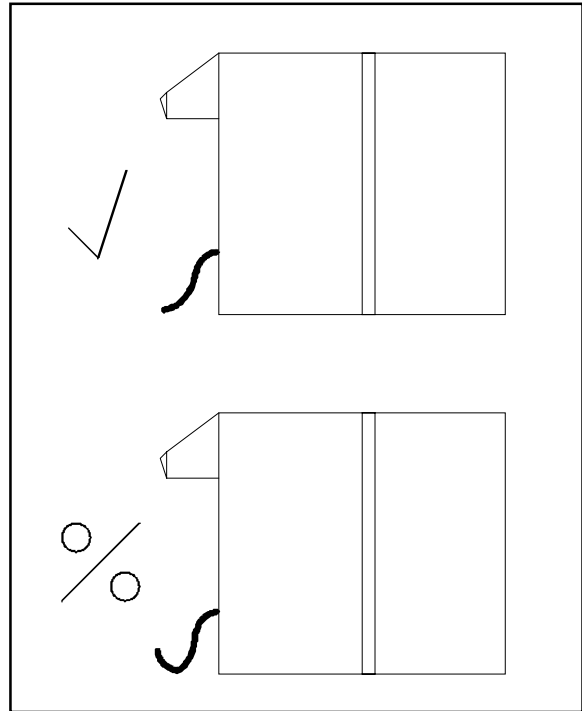

Fig. 3-J
2. Shipped with the processor are two marked replenishment containers, and two replenishment container covers. Place the replenishment hoses onto the angled end of the PVC tube and clamp the hose (fig. 3-K).